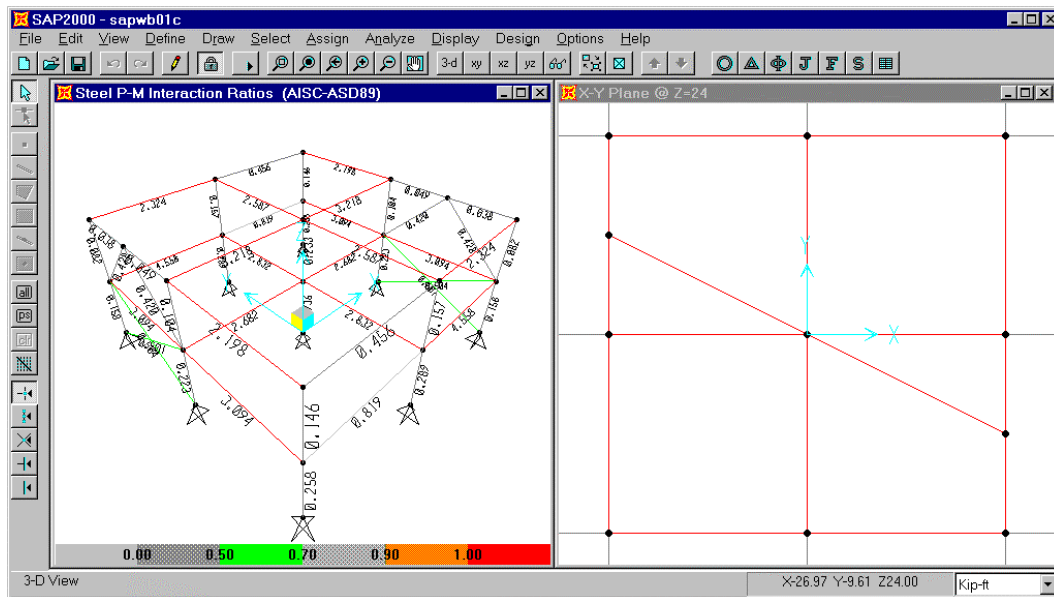

Figure C-19: Initial Member Stress Ratios
10. When the design is complete, the member stress ratios are displayed on the structure as shown in Figure C-19. Note that many of the beam stress ratios are quite high. This has occurred because by default SAP2000 assumes that the beams are unsupported for their full length. For simplicity we will assume that the unsupported length for all beams is two feet, except for the roof beam at the braced frame where it is one foot. This makes an unbraced length ratio of 0.0833 for all beams. We will make this change and rerun the design.